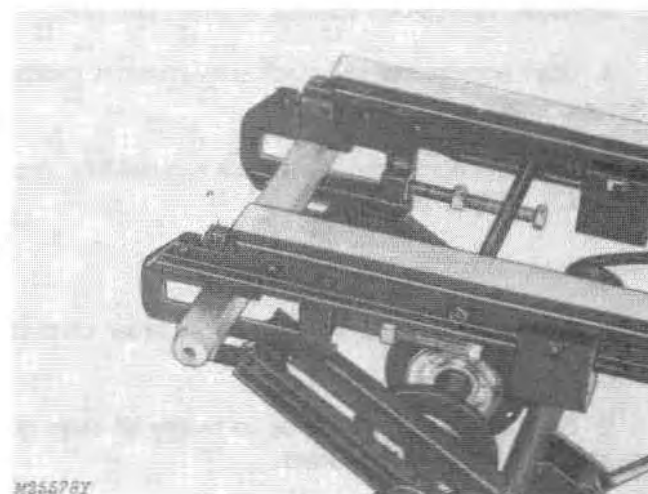

Fig. 7-Installing Rear Axle
4. To reassemble: Place rear axle through slide rail. Be sure grooves in axle fit slide rail correctly, Fig. 7.